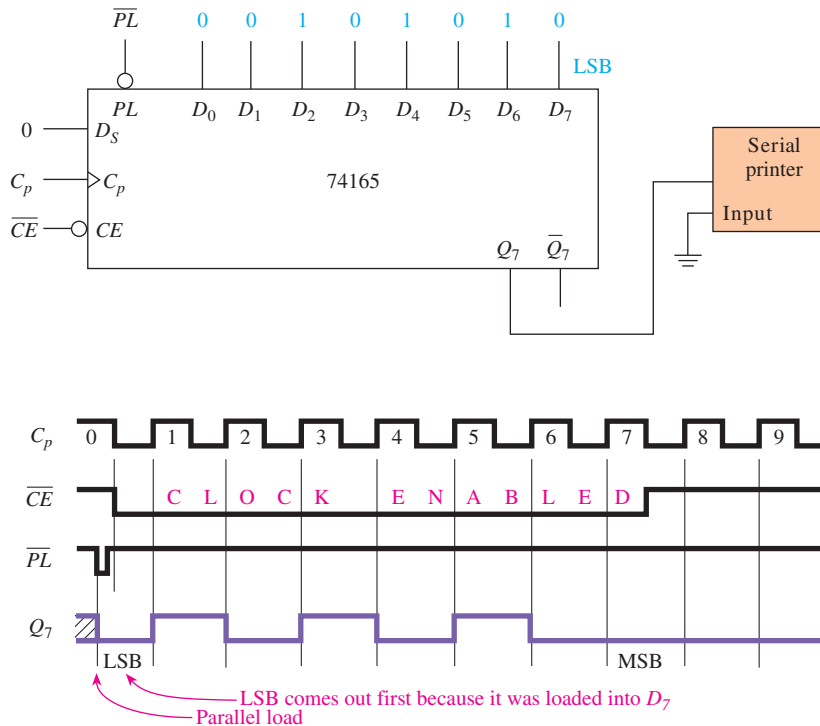

Figure 13-23 Circuit design and waveforms for the transmission of an ASCII character to a serial printer.
- 13-18.** How is the \overline{CE} input used on the 74165 in Figure 13-23?